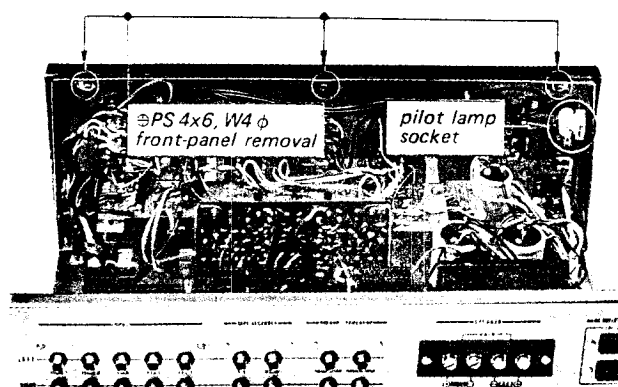

Fig. 2-3 Front-panel removal (1)
4. Remove the three screws ($\oplus$ PS 4x6) behind the top edge of the front subchassis assembly, as shown in Fig. 2-3.
2. Straighten the tab of the pilot-lamp holder to permit the removal of the lamp socket; then pull out the lamp socket. See Fig. 2-3.